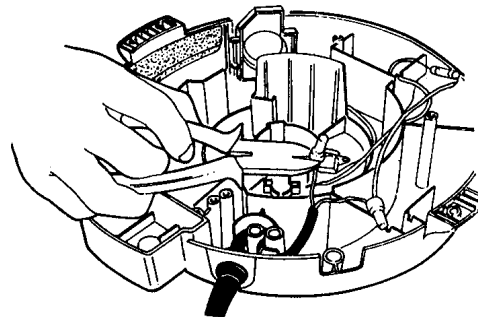

Fig.3
1. Cut the lead wire blue to replace the Thermo Protector Unit. (Fig.3) Connect by closed end connector.